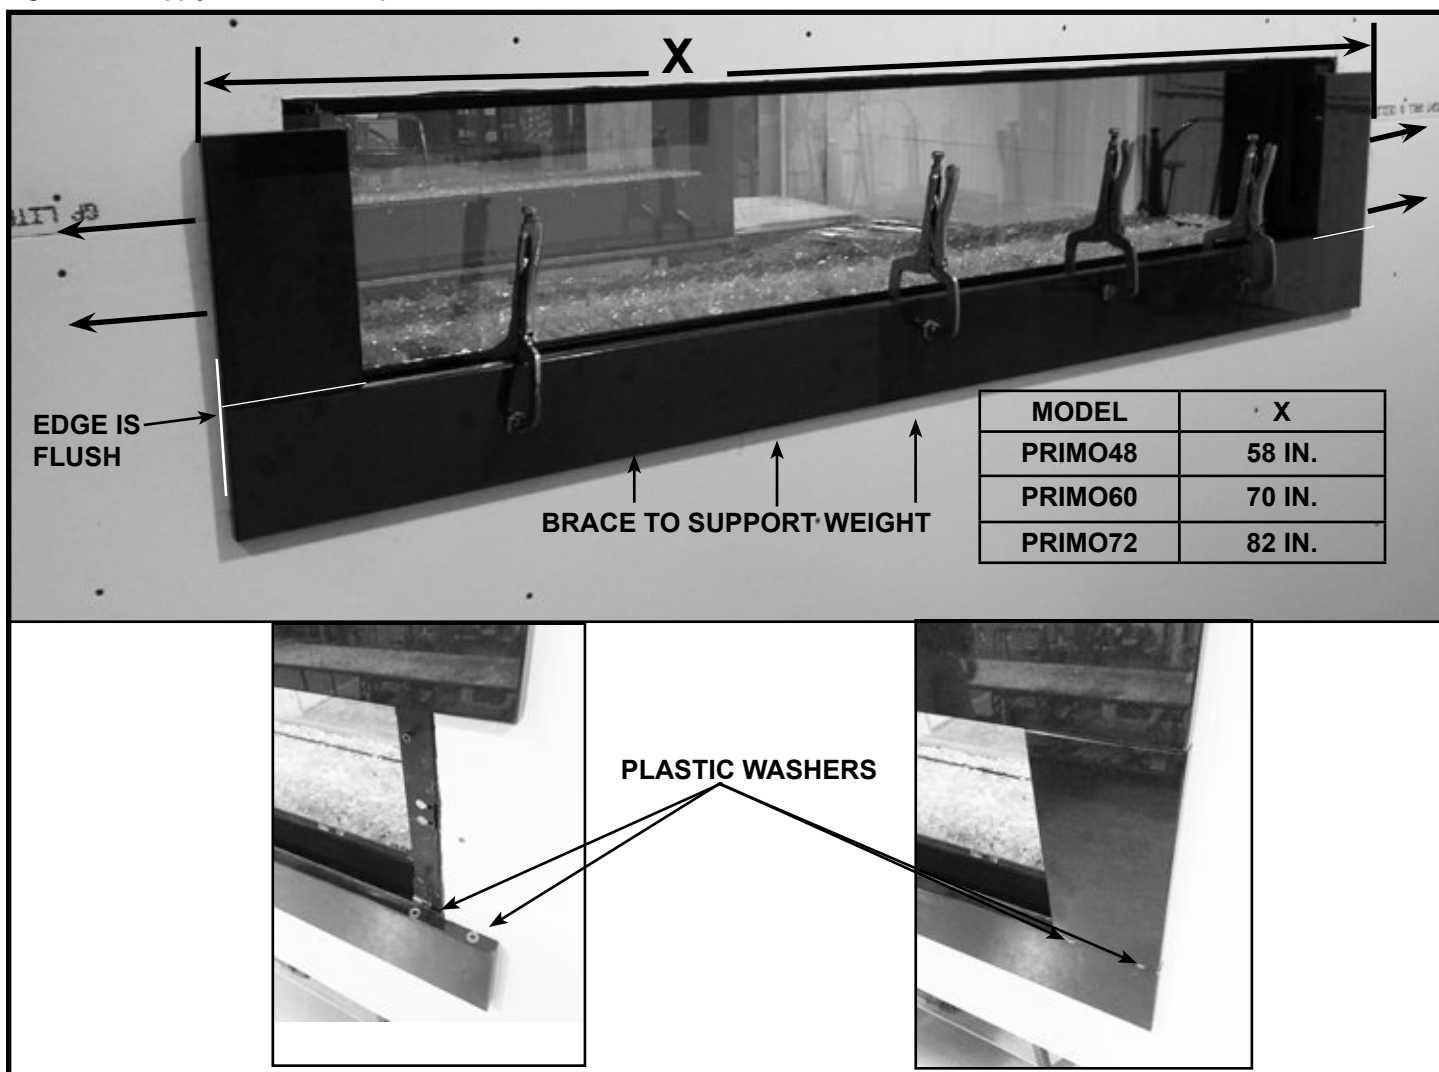

Figure 10.29 Bottom Granite Piece Installed
4. Slide both side granite pieces outward as shown in Figure 10.29. Verify dimensions in Figure 10.25, 10.27 and 10.29.
5. Place plastic washers as shown in Figure 10.29. The washers serve as spacers for granite placement. If washers are not used, the side granite will be difficult to remove.
7. Align the top edge with the bottom of the left and right outside pieces so the edges of the bottom piece are flush with the side pieces. See Figure 10.29. Secure the bottom granite in place with clamps or braces. See Figure 10.29. Do not remove supports or operate fireplace for 24 hours.